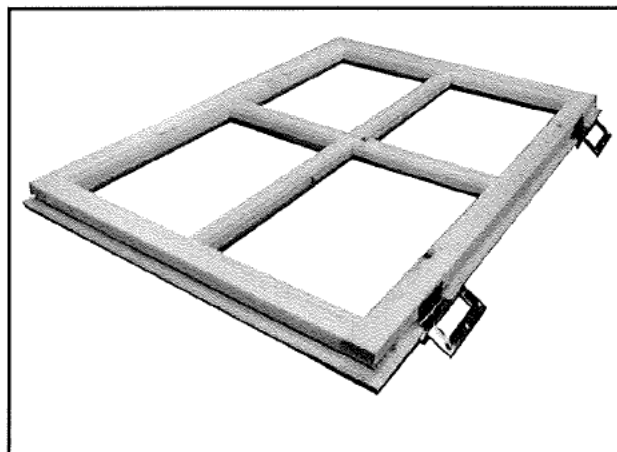

Fig A10- STYLE MAY VARY
19. **Window insert.** Place one hinge on the inner rebate part of the window; approx. One hinge width along from the rebate edge of the longest edge of the insert. The rounded part of the hinge should sit above the outer edge of the window. Screw the inner piece into position (fig. A10 & A11) using the pre drilled holes in the hinge and 3 x 25mm screws. Repeat with the other hinge. And close the hinges together.